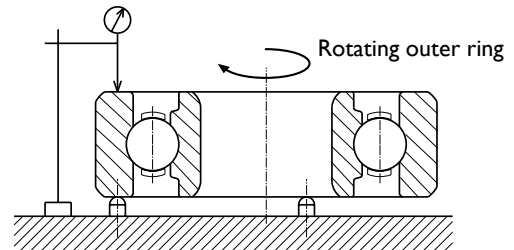

Figure 2-4
- Outer Ring Width (C_s) Figure 2-4